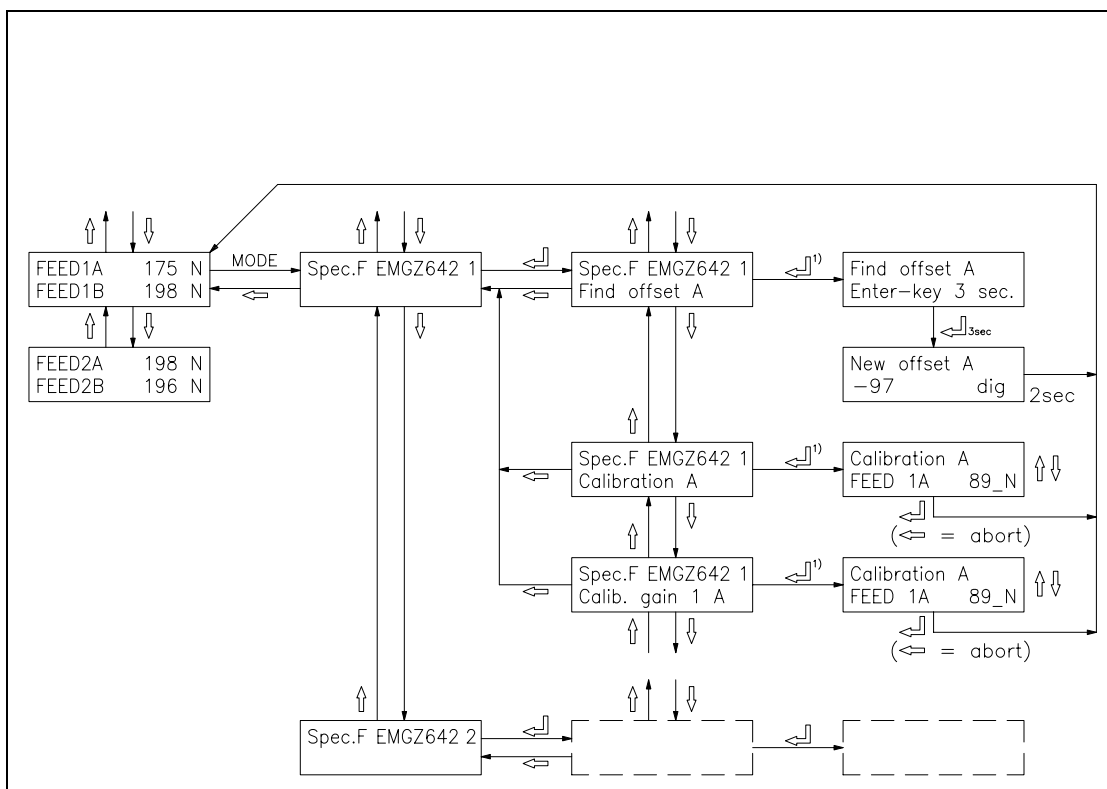

fig. 10: Switching between the tension feedback values
- Load material or rope with a defined weight (fig. 10)